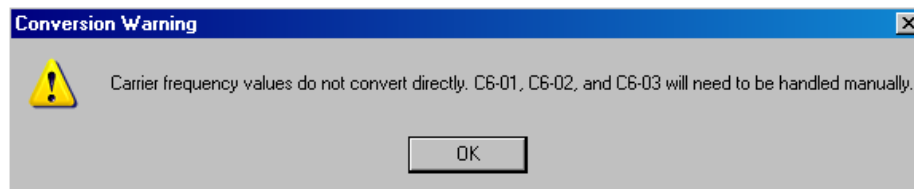

Figure 4.16: Carrier Frequency Setting Warning
5. A warning window (Figure 4.16) will now appear reminding the user to set the carrier frequency and rating of the F7 manually (C6-01, C6-02, etc). This is because the GPD515/G5 does not have the current rating and carrier frequency rules that the F7 has. Refer to the F7 drive manual TM.F7.01 page 5-9 and the F7 drive Programming Manual TM.F7.02 programming page 35 for more detail. Click on **OK** to complete the file save process.